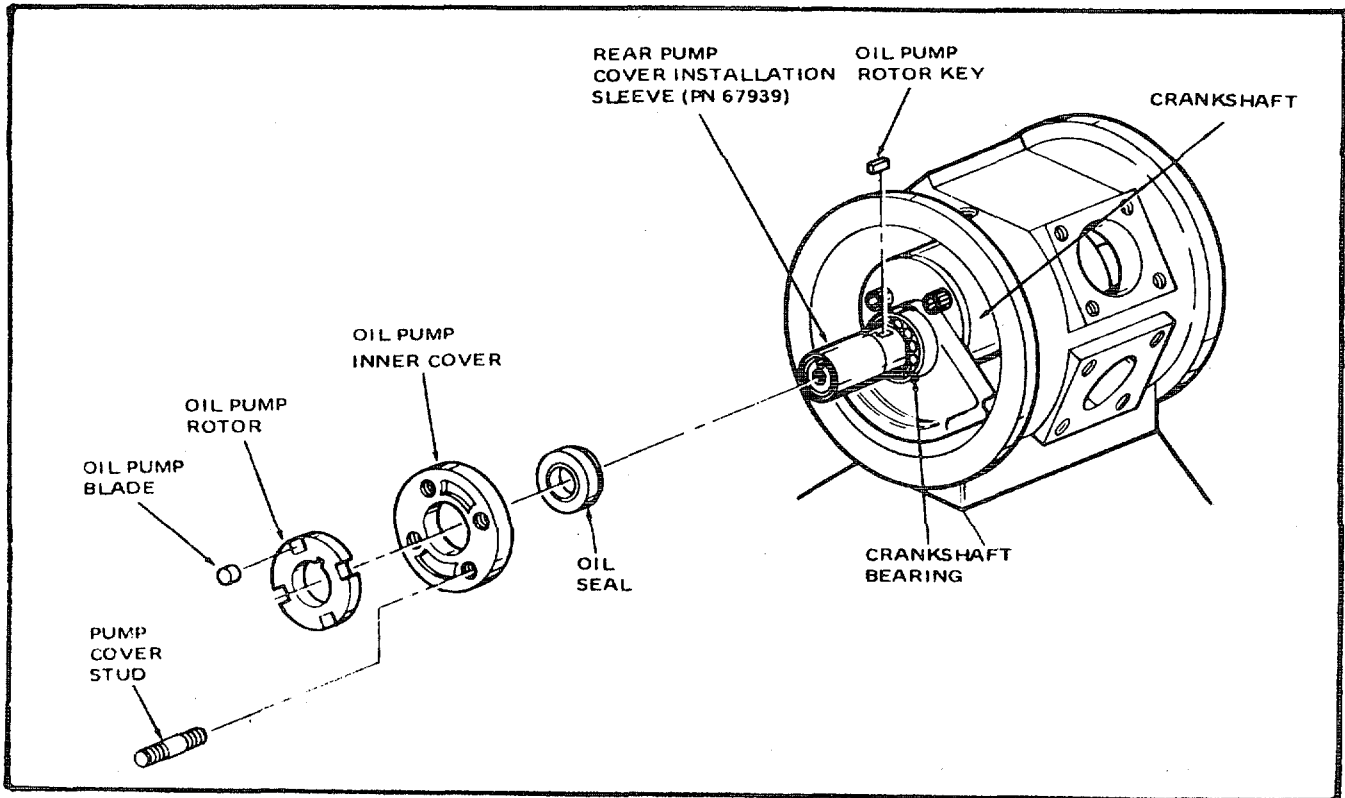

Figure 6-7. Non Drive End Cover, Oil Pump and Oil Seal Installation
- (1) Mount the oil sump (121) in a suitable holding fixture to start assembly. Assemble o-ring (124) in groove on sump. Assemble crankcase (127) to sump (121) and attach with three lock washers (123) and screws (122). If removed, attach serial number plate (125) to crankcase with screw (126). Assemble oil strainer (120) in sump.
- (2) If pipe plug (119) was removed from crankshaft (118) install the pipe plug (119). Place connecting rods (115, 116, and 117) in crankcase (127) with rod bearing ends through crankcase cylinder bores.
- (3) Assemble balance weight (112) to drive end of crankshaft (118) bearing journal with lock washers (114) and cap screws (113).
- (4) Heat drive end bearing (111) by immersing in oil heated to temperature of 350°F (177°C). Allow bearing to heat from five to ten minutes; then, assemble on crankshaft drive end journal with bearing inner race against shoulder of balance weight (112)
- (5) Assemble a new oil seal (110) in bore of drive end cover (104) flush with outer face and with sealing lip facing inward. Press three dowel pins (77) in end of crankshaft (118) leaving approximately half of pin protruding from crankshaft. Carefully assemble drive end cover (104) over bearing (113). Place new gasket (109) against end cover (104) flange aligning holes. Insert non-drive end of crankshaft (118) through drive end of crankcase and carefully through the connecting rods (115, 116, 117). Secure drive end cover (104) to crankcase (127) with lock washers (106, 108), one 1-1/4 inch long cap screw (107) and five 1-1/2 inch long cap screws (105).
- (6) Assemble drive ring gear (76) to flywheel (79) with lock washers (78) and cap screws (77). position flywheel gasket (83) on end of crankshaft over dowel pin (82) and carefully assemble flywheel (79) to end of crankshaft (1 18) with three lockwashers (81) and socket head cap screws (80).
(7) Assemble balance weight (112) to non-drive end of crankshaft rod journal with lock washers (114) and cap screws (113). Heat the non-drive end bearing (111) by immersing in oil heated to temperature of 350°F (177°C). Allow bearing to heat from live to ten minutes; then, assemble (01 crankshaft journal with inner race against shoulder of balance weight.
(8) See Figure 6-7. Using rear pump cover and seal tool (Table 2-1), assemble new oil seal (103), with seal lip facing towards bearing, onto crankshaft (118). Install four studs (102) in oil pump inner cover (101) with short threaded end in cover (101). Assemble cover (101) on crankcase. Install pump rotor key (100) in (118) keyway. Assemble oil pump rotor (98) over key (100) and install pump blades (99). Remove cover and seal tool.
(9) If end cover assembly (90) was disassembled, press in one bushing (96) to a depth of 1.3201.330 inch from face of boss on side of end cover (90), install o-ring (197), then press in the other bushing (96) to a depth of 0.780 0.790 inch from boss face. Position gasket (95) on flange of end cover (90) and assemble end cover to crankcase with oil relief valve boss located 90° from top, facing compressor non-drive end and aligning studs